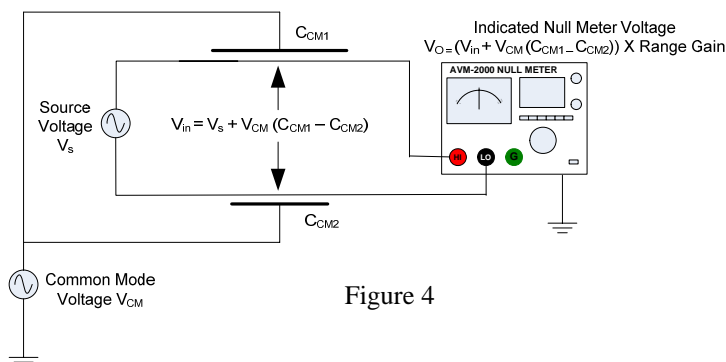

Figure 4
Ensure the Reference Divider, Voltage Source to be calibrated and null meter are connected as shown in Figure 4 including the 2 μ F filter block at the null meter input terminals. Follow the manufacturer's instructions for using the Reference Divider to calibrate an unknown voltage source.
- Capacitively coupled common mode signals where differences in HI and LO coupling capacitance create a normal mode input (Figure 4)